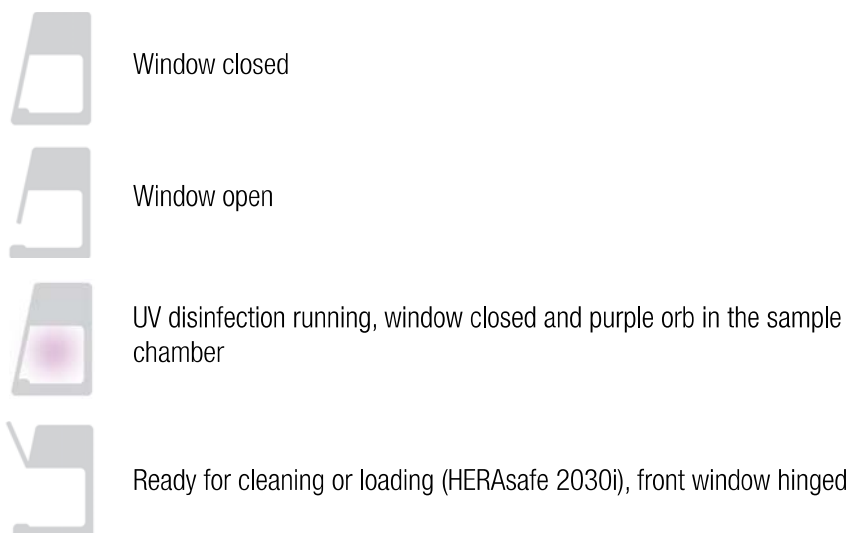

Figure 24 Main Screen
Figure 24 shows the unit in working mode, with the Window ready in the working position and the downflow and inflow velocities at operational speeds. The sample space illumination, blowers, gas supply and power receptacle functions are all on.
- in working mode, as shown in Figure 24 above